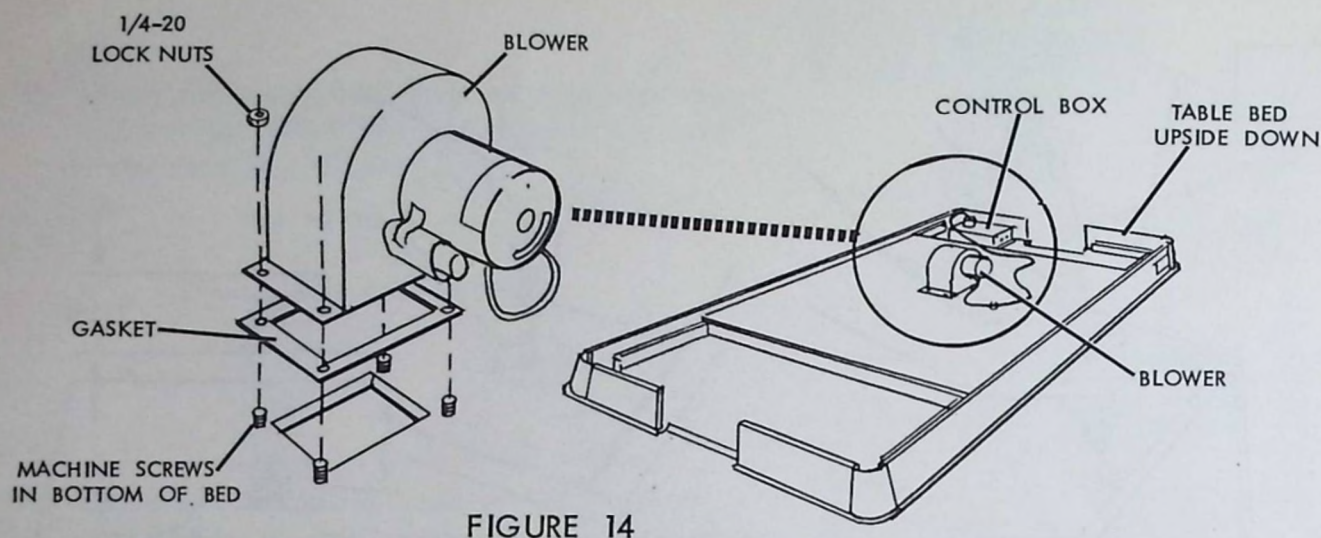

FIGURE 14
18. Before turning the bed and apron assembly over, install the blower. (Figure 14)
19. Set the blower and gasket over the studs that are around the opening on the bottom of the bed. (Figure 14)
20. The blower motor should be positioned opposite the control box as shown (Figure 14). Plug the twistlock into the control box.
21. Attach the blower, using hardware shown. (Figure 14)